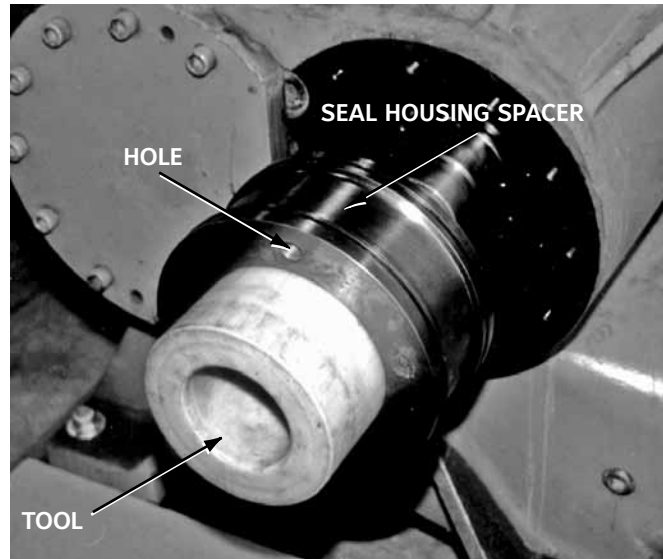

Figure 7.
4. Replace wave springs (7) in casing. Install coil springs (3) in spring pockets. Slide tool into bore of seal housing spacer (6) before sliding spacer over shaft. Note that the tool protects the lip seal during installation of the seal housing spacer (6). With tool inserted, slide seal housing spacer over shaft and into place with lifting hole at 12 o'clock position. See Figure 7.